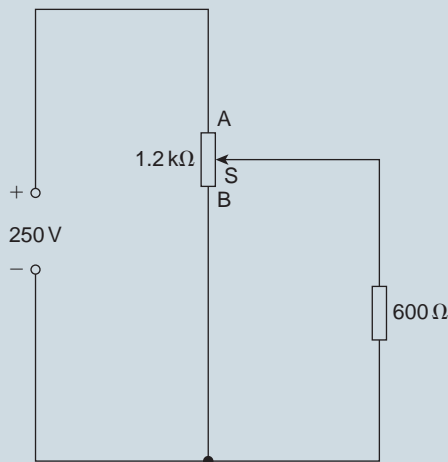

Figure 7.46
3. For the circuit shown in Fig. 7.46, calculate the voltage across the $600\ \Omega$ load when point S splits AB in the ratio 1:3